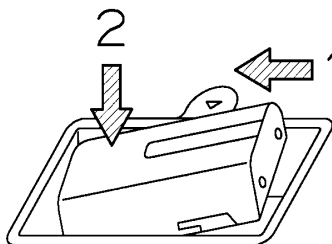

Figure 3-3 Removing the battery pack
b) Dismounting the battery pack (See Figure 3-3.)